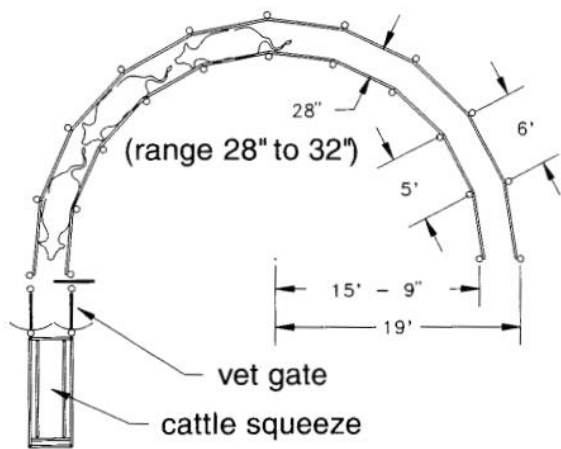

Figure 5 Typical single file working chute
- See Figure 5 for an example of a typical single file working chute